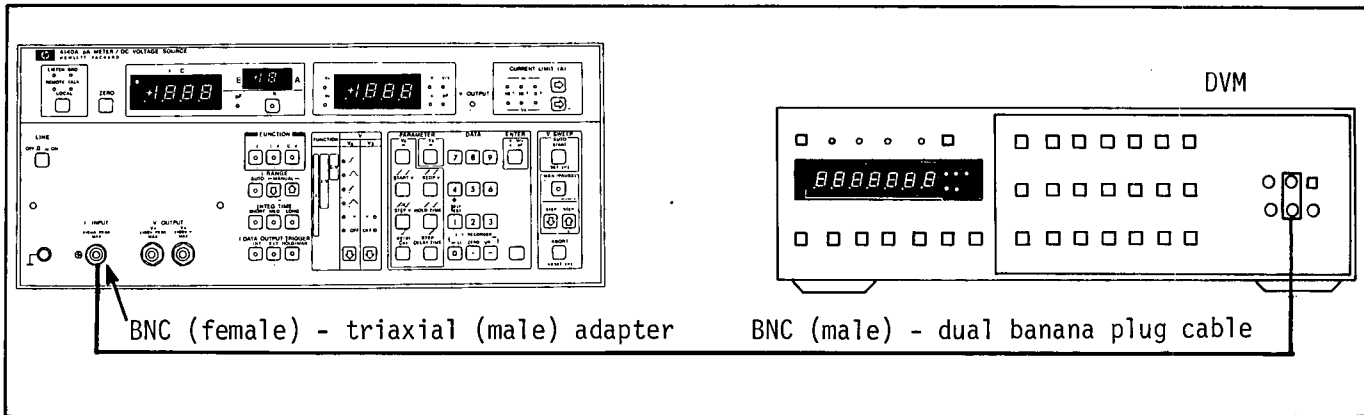

Figure 5-2. pA Meter Amplifier Offset Adjustment Setup.
1. Connect DVM input and the 4140A I INPUT connector with BNC (female) - triaxial (male) adapter and BNC (male) - dual banana plug cable. See Figure 5-2.